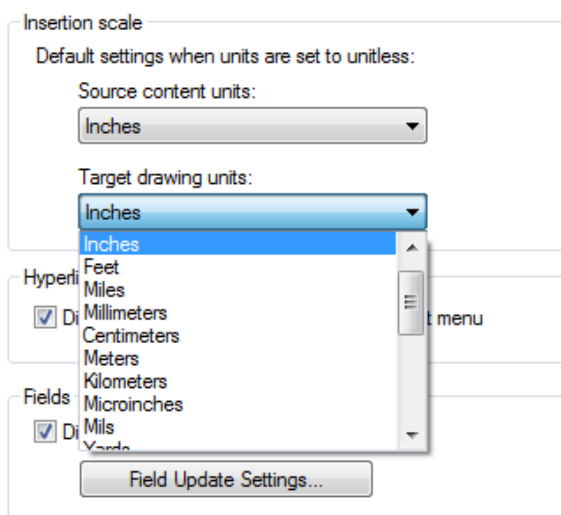

Figure Step 33A
Step 33 In the Insertion scale area, pull down the Source content units menu and select Inches. Do the same for the Target drawing units menu to set both to inches. (Figure Step 33A and 33B)